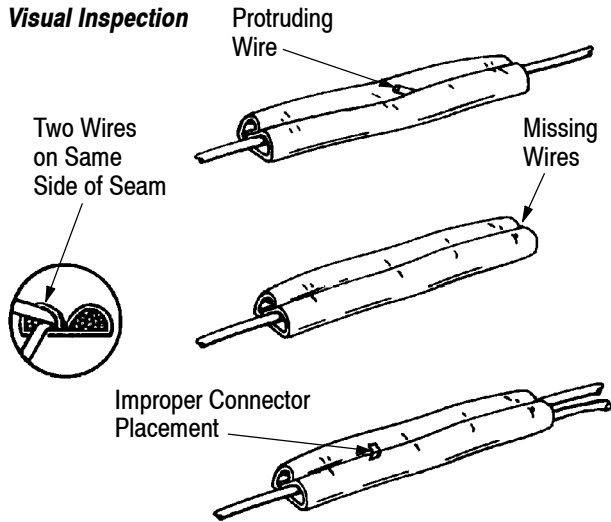

Figure 8
8.2. Visual Inspection (Figure 8)